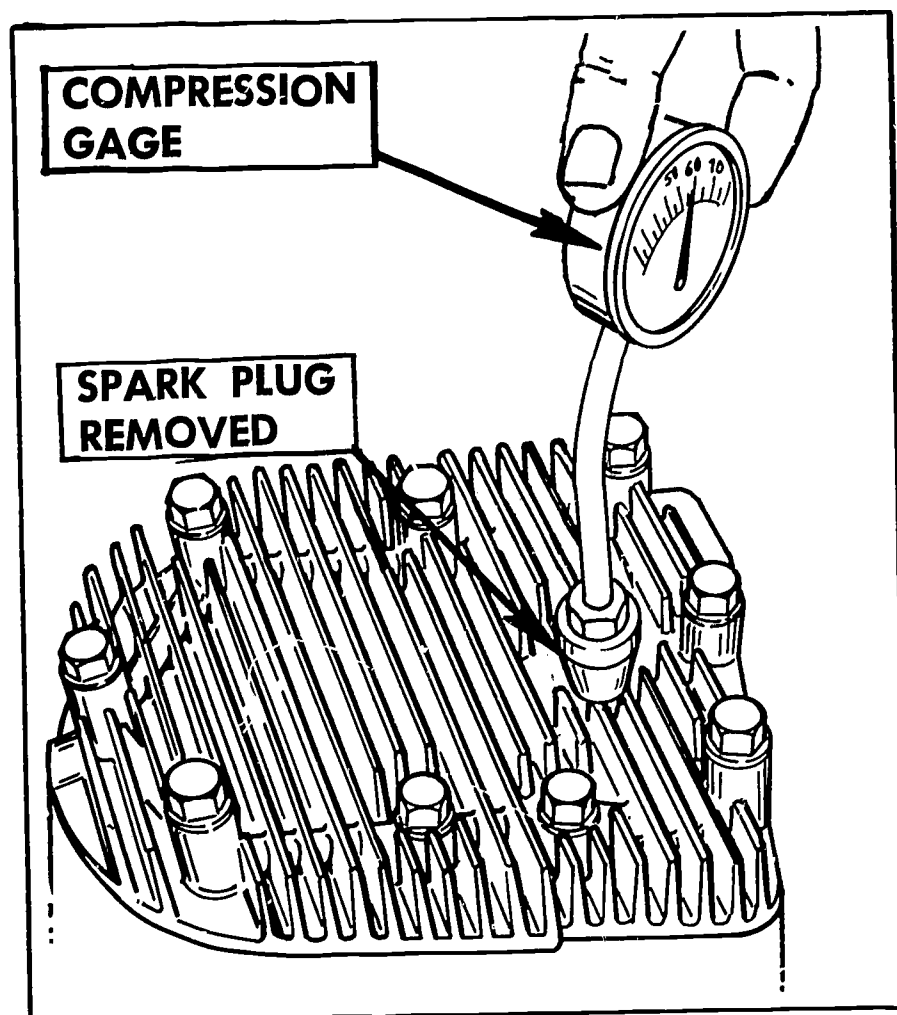

FIGURE 184. Checking the cylinder compression with a compression gage.
2. *Insert compression gage in spark-plug hole (Figure 184).*